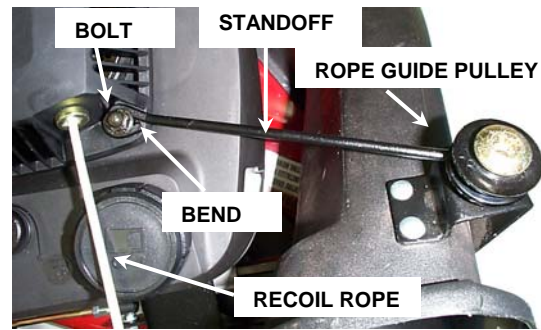

FIGURE 2.10a
STEP 1a (Kawasaki only): Attach Bag Adapter Standoff between rope guide pulley assembly and engine recoil. See Figure 2.10a.
STEP 2: Route recoil rope around recoil rope pulley on bag adapter. See Figure 2.10a. **NOTE:** Pulling Blade control against upper handle will allow extra recoil slack.